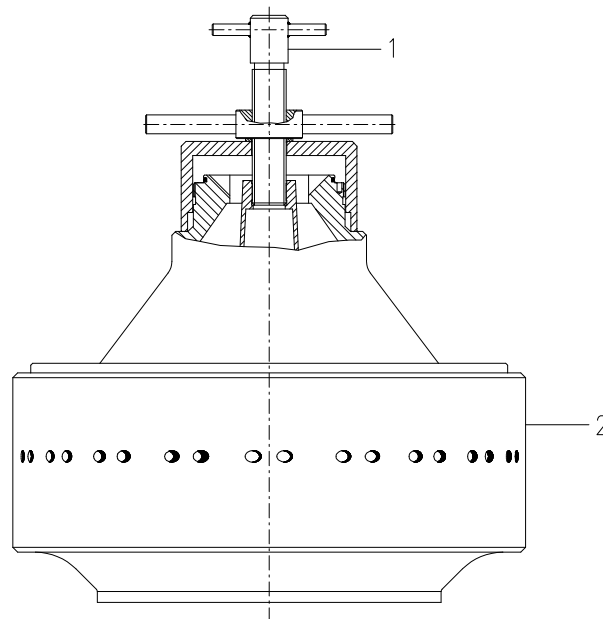

Figure 4.4
**To lift the bowl** (fig. 4.4) a particular procedure must be followed:
- screw on the bowl (2) the threaded rod with nut (1), used for disks compression;